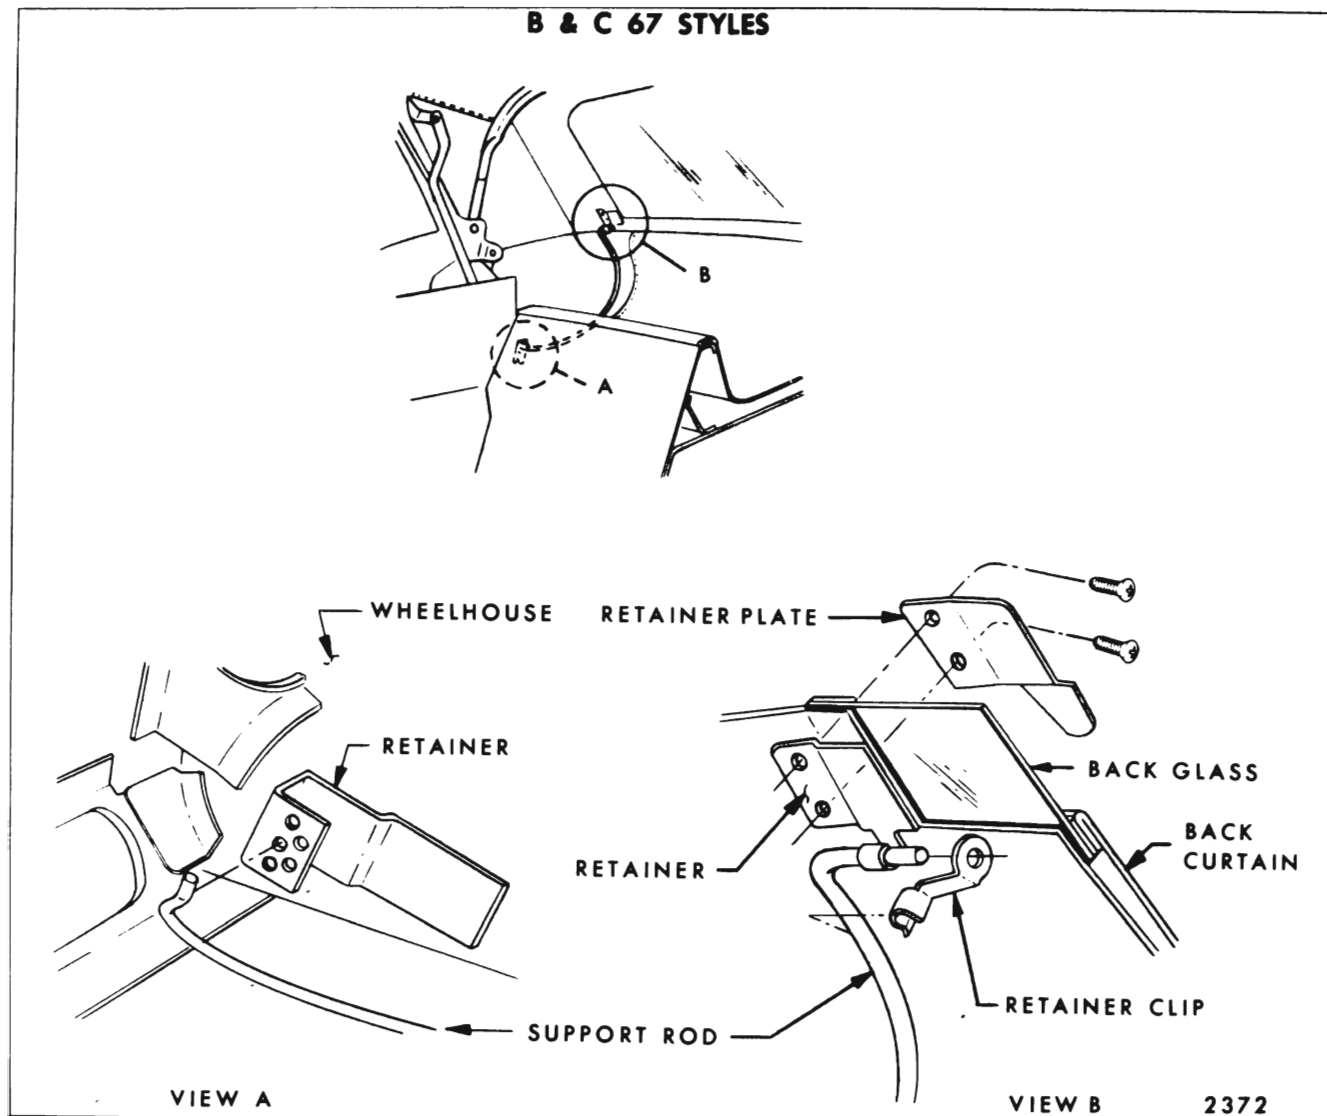

Fig. 13-1—"B & C" Body Back Glass Support Rod Attachments
6. On styles equipped with back glass support rods, disengage right and left rods from back curtain (Fig. 13-1).